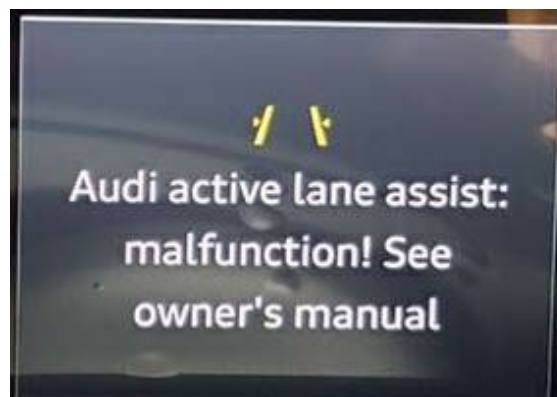

Figure 1. Example of a message.
- "Audi Active Lane Assist: malfunction!" (Figure 1).